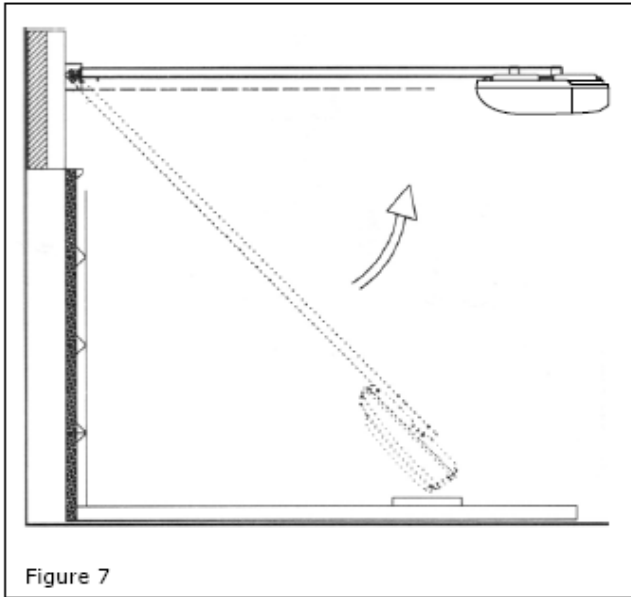

Figure 7
STEP 7 (Fig. 7) Attach the manual disengagement cord to the shuttle assembly. This should be set at a reachable height of approx. 1.8metres. Pull the cord down to free up the shuttle, and then slide the shuttle towards the closed garage door. Select and attach the appropriate door connecting arm to the shuttle, then attach the garage door bracket to the other end. Position and bolt the bracket to the top edge of the door using the bolts supplied.